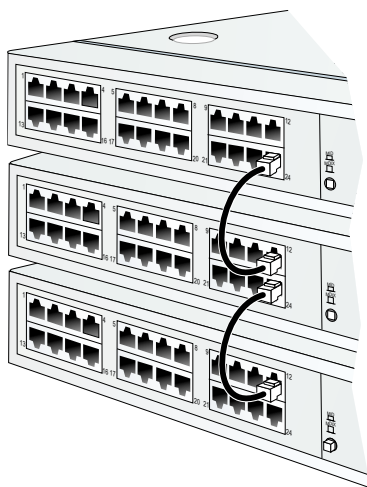

Figure D-16 Patch Cable and MDI Selector Configuration
- c. Using a pencil or other pointed instrument, set the medium-dependent interface (MDI) switch on the top and middle hubs to **MDI (in)**. Set the MDI switch on the bottom hub to **MDIX (out)**. The configuration is shown in Figure D-16.